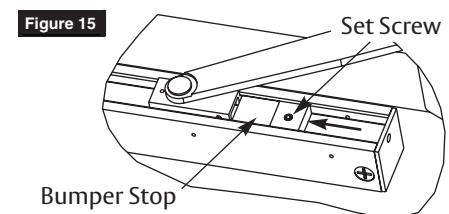

Figure 15
- Tighten set screw in bumper stop so bumper will stay in position. (Figure 15)